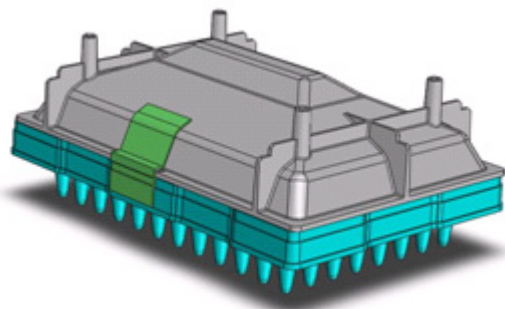

Figure 17 The SOLiD™ Emulsion Collection Tray taped to a 96-well reaction plate.
1. Place the SOLiD™ Emulsion Collection Tray on top of the ePCR 96-well plate (see Figure 17).